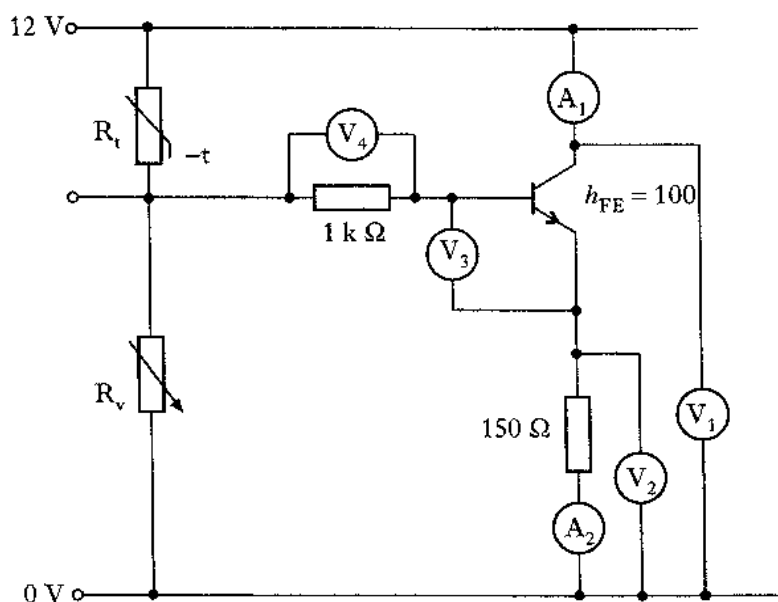

Figure Q6
- (b) Determine the magnitude and nature of the force in member (1) by "nodal analysis". 4
6. An electronic engineer constructs the circuit shown in Figure Q6 to test a temperature control system for a cooling fan.